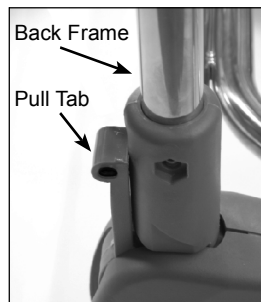

Figure 1
- One by one, pull on each of the pull-tabs and change the pivot angle to vertical (Fig. 1). Insert the U-shaped stainless steel back and calf frames into the pivots and fasten with bolts and nuts provided.
- On the calf support frame, under the cover, locate the adjustment pull handle (G) for the Elite or the adjustment pull tab (Fig. 1) on each leg for the Omni. It is not necessary to remove the cover. Using both hands, grip the lever and calf support frame and squeeze together for the Elite or pull out the pull tabs for the Omni.